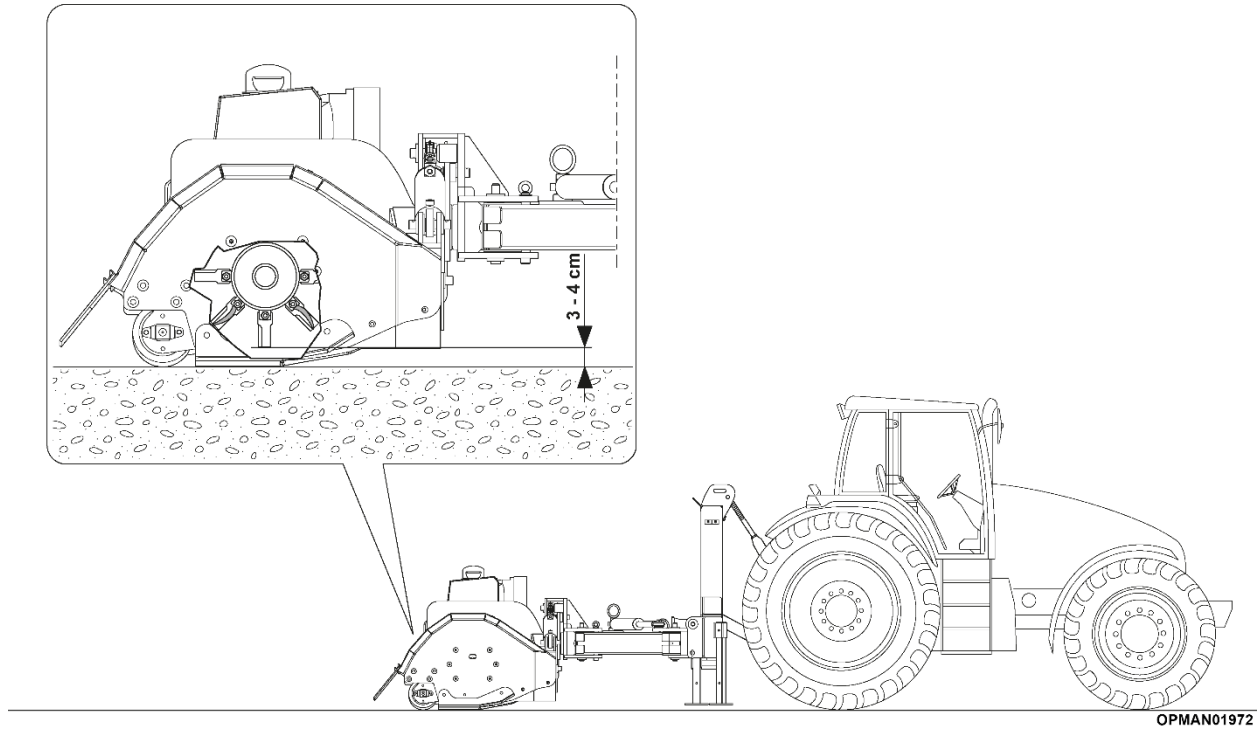

Figure 15
- Adjust the working height so that the flails are at about 3 - 4 cm from the ground (Figure 15).